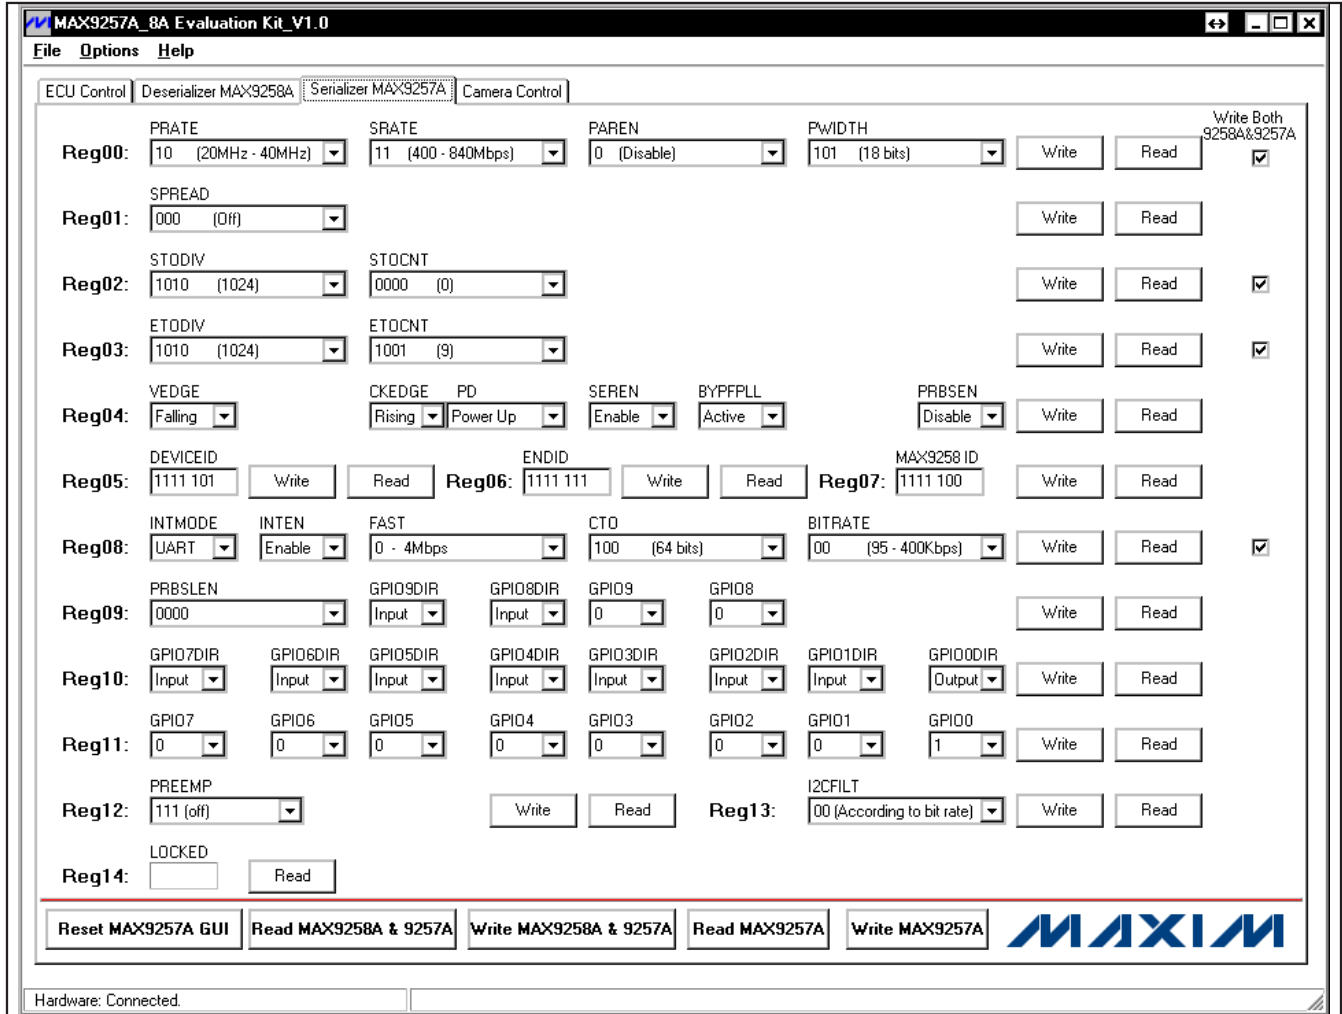

Figure 5. MAX9257A/MAX9258A Evaluation Kit Software—Serializer MAX9257A Tab
- 21) Click on the **Serializer MAX9257A** tab to move to the **Serializer MAX9257A** tab sheet (Figure 5).
On the **Serializer MAX9257A** tab sheet (Figure 5), the ECU can write or read all registers on the MAX9257A by pressing the **Write** or **Read** buttons on the right of each register. Refer to the MAX9257A/MAX9258A IC data sheet for the definition of each register.
- 7) Navigate to the **Serializer MAX9257A** tab sheet (Figure 5). Select **Enable** in the **SEREN** drop-down list within the **Reg04** controls if it is not enabled.
- 8) Navigate to the **Serializer MAX9257A** tab sheet (Figure 5). Select enable in the **SEREN** drop-down list within the **Reg04** controls if it is not enabled.